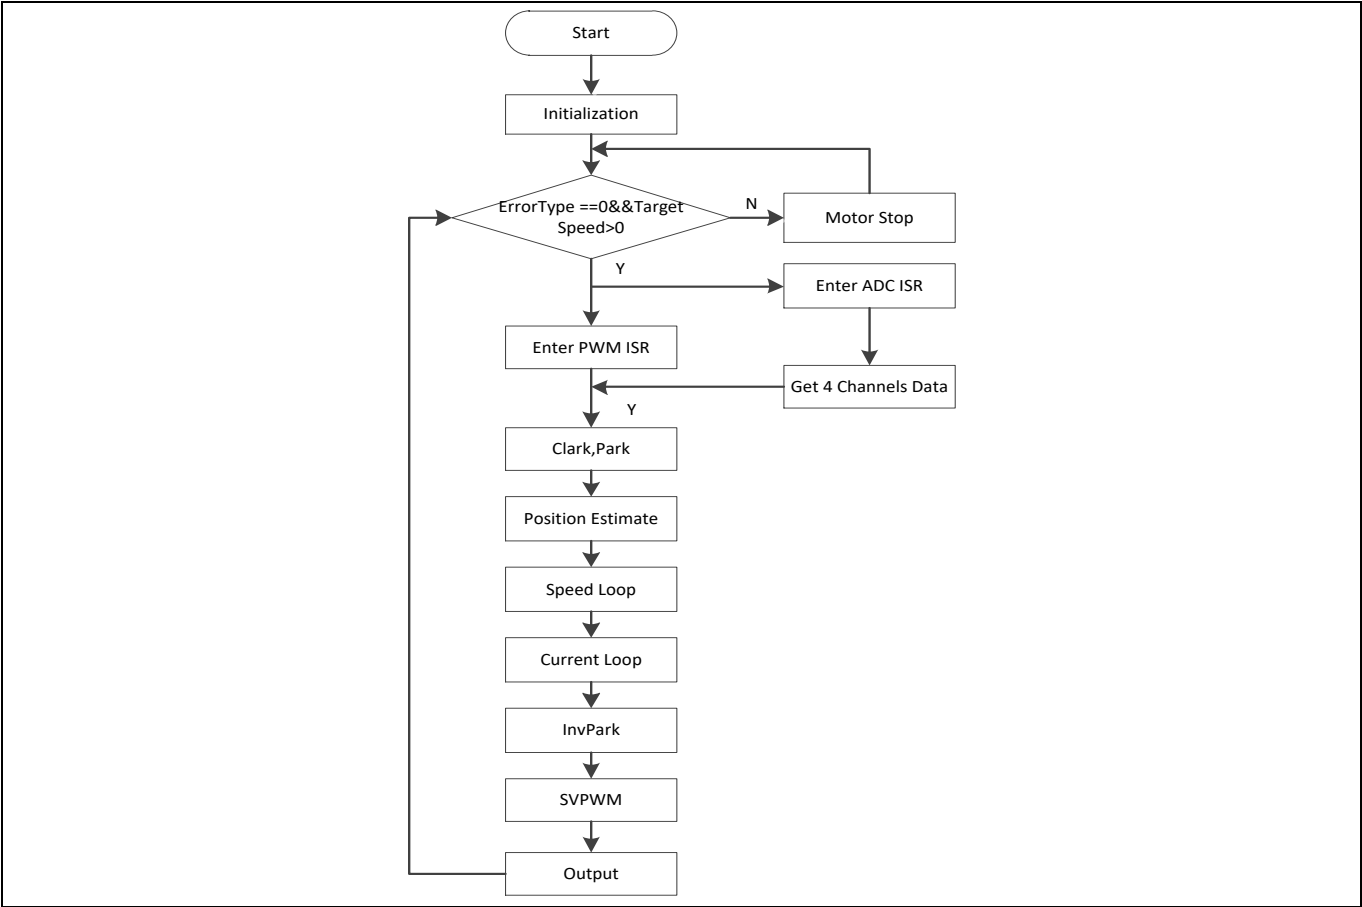

Figure 10 Firmware Execution Flow
Figure 10 shows the firmware execution flow. The FOC algorithm requires the PWM duty cycle to be updated every control cycle. Therefore, FOC calculations must be done in a periodic interrupt service routine (ISR). The ISR is triggered by the PWM every 100 μ s (10-kHz PWM) – this is the control cycle period. Note that this interrupt should be high priority for effective duty cycle control – see SVPWM Generation.
This section presents implementation details for each stage of the sensorless FOC processing listed in the PWM ISR (Figure 10), including current sampling, Clarke and Park transformations, SMO, PI controller, and SVPWM.
- A hardware trigger starts sampling. After four channels are sampled, the ADC stops and waits for the next trigger signal. The trigger frequency is 10 kHz. The PWMs provide a common timing for ADC sampling, CPU interrupt, and MOSFET control – see Figure 9, Figure 10, and the SVPWM Generation section.